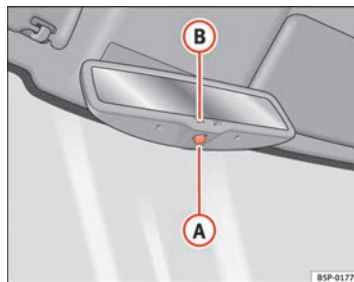

Fig. 89 Automatic anti-dazzle interior mirror.
- Press button **A** ⇒ fig. 89. Indicator lamp **B** goes off.
- Press button **A** ⇒ fig. 89. Warning lamp is lit.